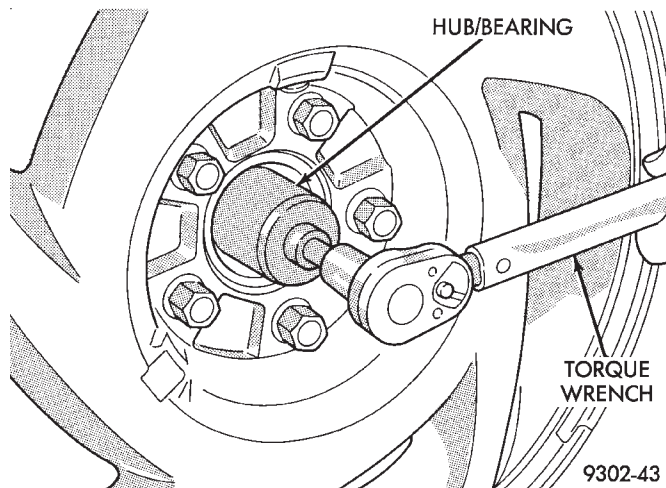

Fig. 14 Tighten Hub And Bearing Retaining Nut
(8) With the vehicle brakes applied to keep vehicle from moving. Torque the **NEW** stub shaft to hub and bearing assembly retaining nut to **163 N•m + 14 (120 ft. lbs. + 10)** (Fig. 14).